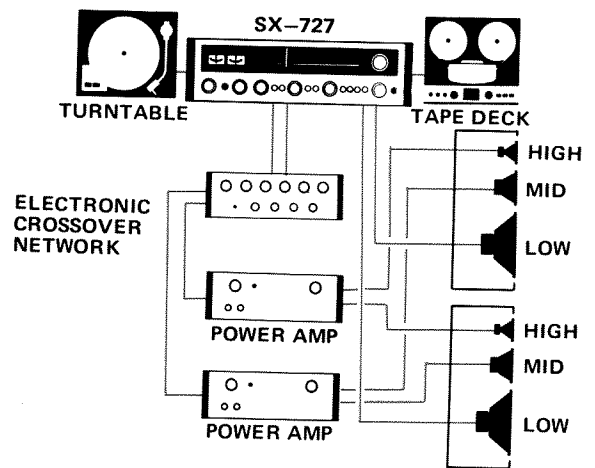

Fig. 3
- By adding an electronic crossover network (Pioneer SF-500, SF-700, for example) and 1 or 2 additional power amplifiers, a 2-way or 3-way multi-amplifier system can be built. See Fig. 3.